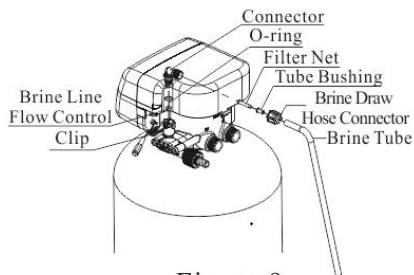

Figure 9
⑥ Connect brine tube
- As Figure 9 shows, insert brine line flow control into connector, and then put into the O-ring.